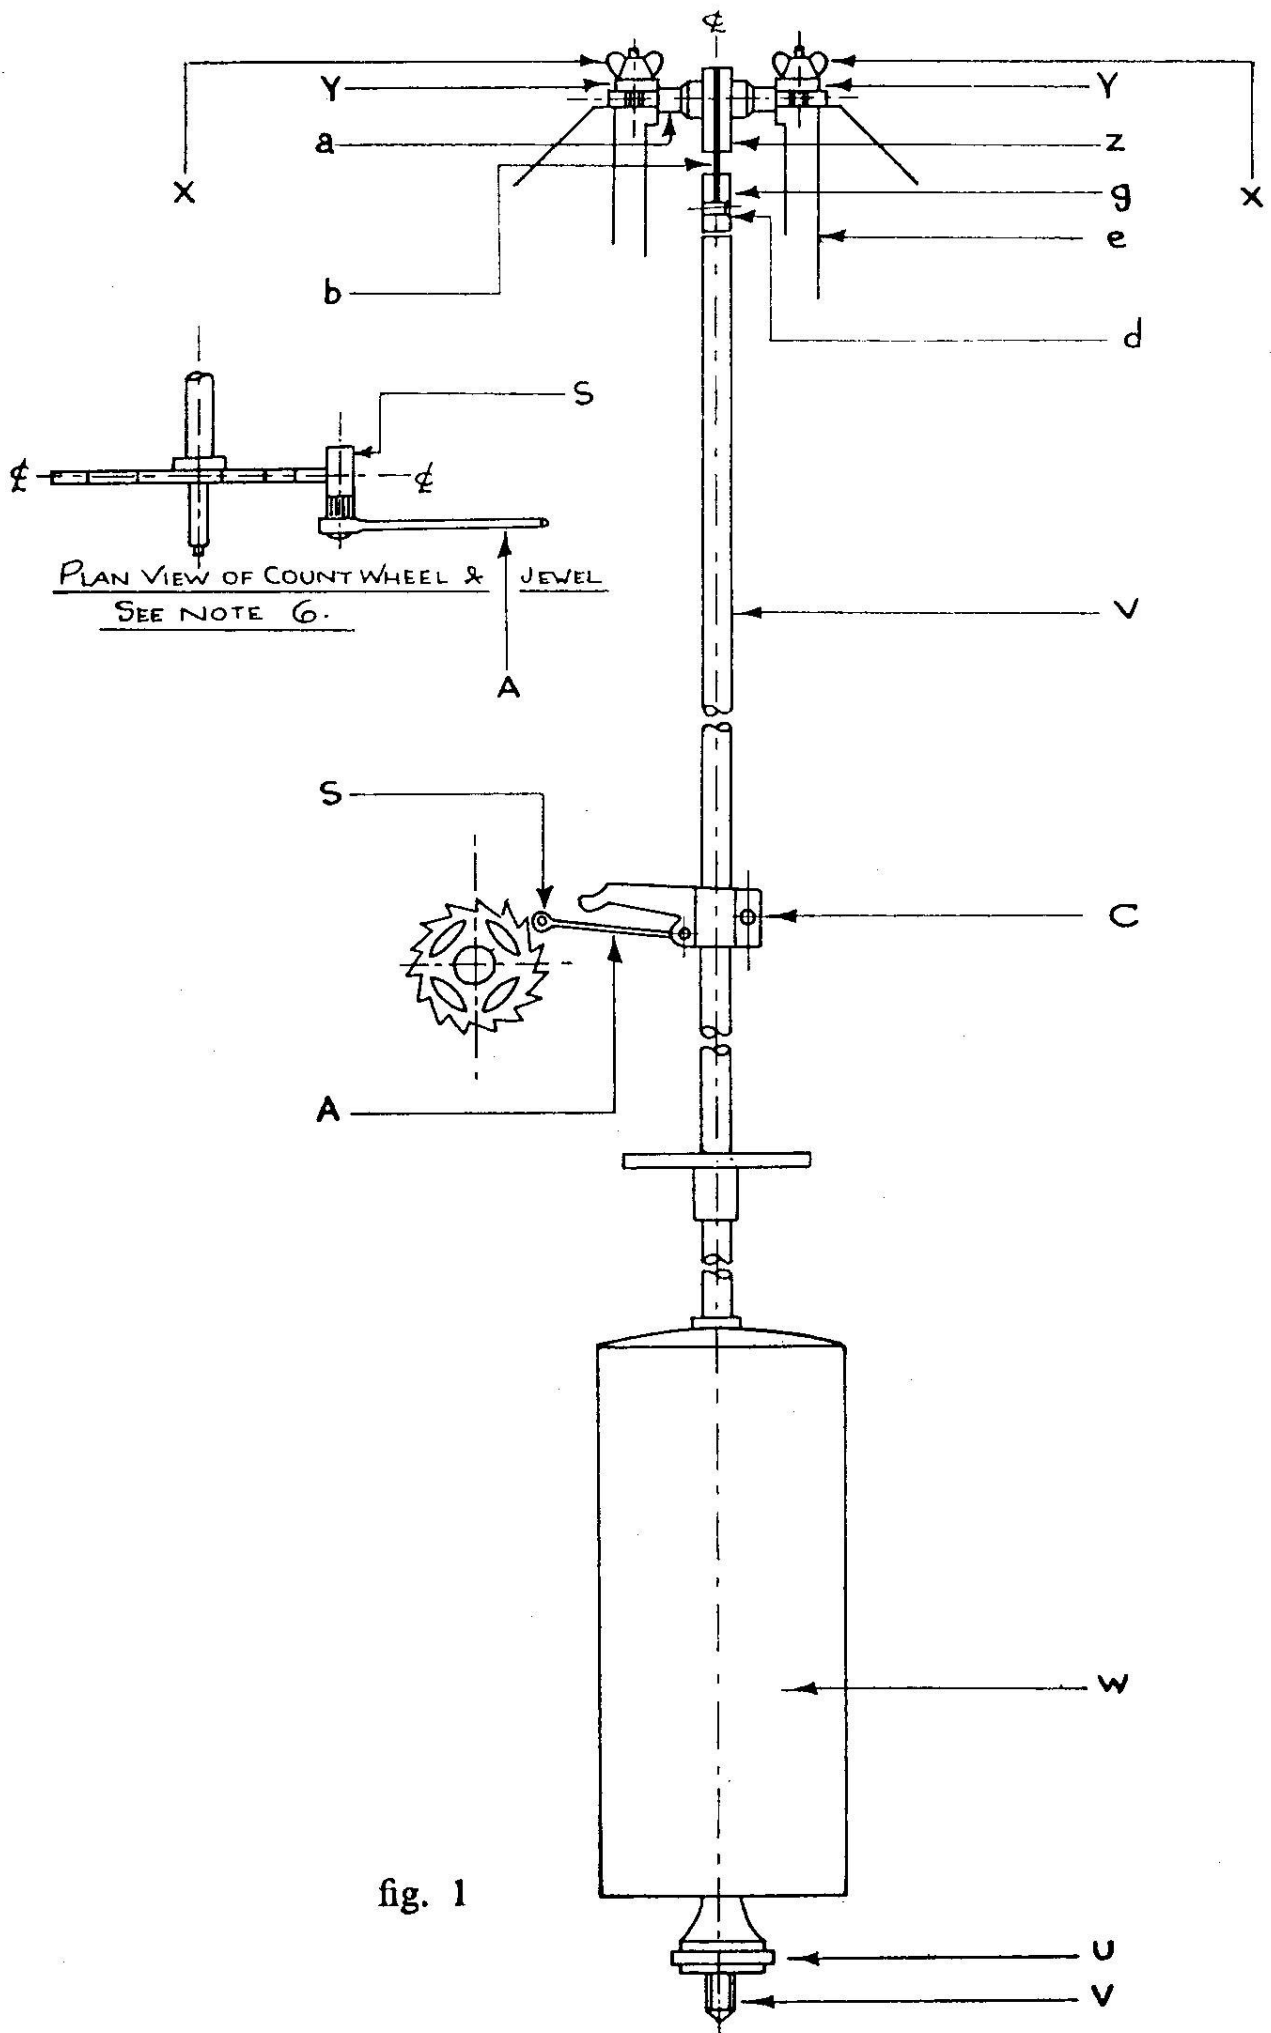

fig. 1
PENDULUM ASSEMBLY—see fig. 1.
6. The whole unit should then be hung by means of trunnion *a* and positioned on the top of movement bracket *e* so that the centre of the jewel S is in line with the teeth of the count wheel when viewed from above—see diagram in fig. 1.